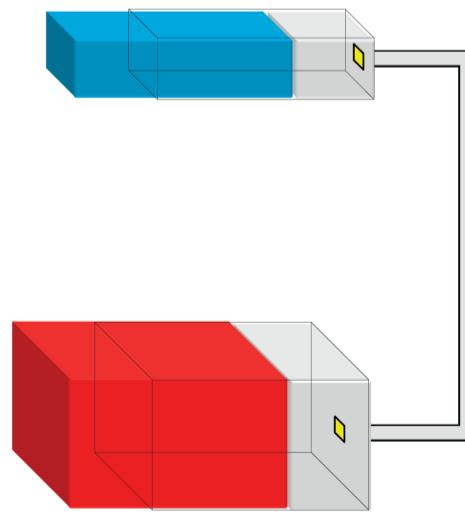

Figure 11
1. If the blue cylinder in Figure 11 moves down by 12 mm, by how much will the red cylinder move up?
- In the system in Figures 11 and 12, the mechanical advantage is four, and the distance advantage is $\frac{1}{4}$.